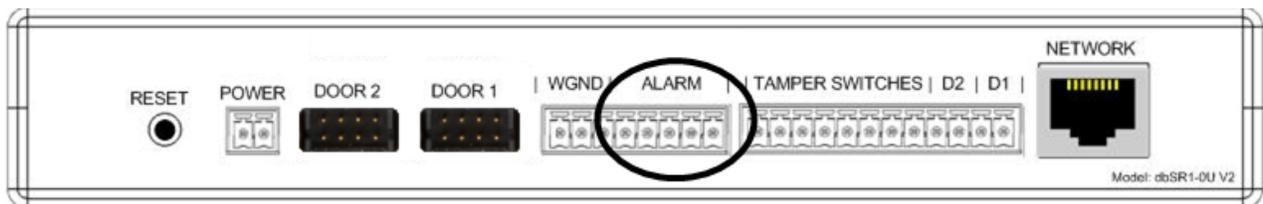

Figure 7a
- The Alarm Output terminals are shown in Figures 7a and 7b.